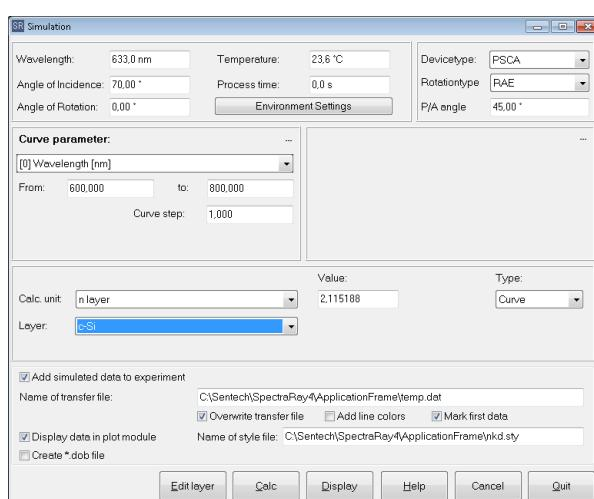

Fig. 5-128 Simulation: Retrieving layer information
The first example of using this feature is to compare two materials in its dielectric functions. It requires the calculation of $n(\lambda)$ for two materials ($k, \epsilon_1, \epsilon_2$ is the same). Set up the simulation mask as visible in Fig. 5-128. This adds two elements to the dialog:
You create a comparison between two materials as follows. First check the “Overwrite transfer file” box and select the first material. If you have an empty data list (1) check “Add simulated data to experiment”. Now select the curve parameters (example is shown in Fig. 5-128). Uncheck “Display data in plot module”, because the view of data is needed only after calculating the second data set. Press “Calc” to run the calculation. After this was successful you have the first data set and you have to append the second. Uncheck “Overwrite transfer file” and check “Display data in plot module”. This appends the following data and since the second data set is the last to be calculated the automatic data display is useful (the same function is achieved by pressing the button “Display” after the calculation has finished). Select the second material and rerun the simulation by pressing the button “Calc”. This creates the second data set and automatically runs the PLOT program with the ASCII file containing both data sets. This should display the two desired curves.